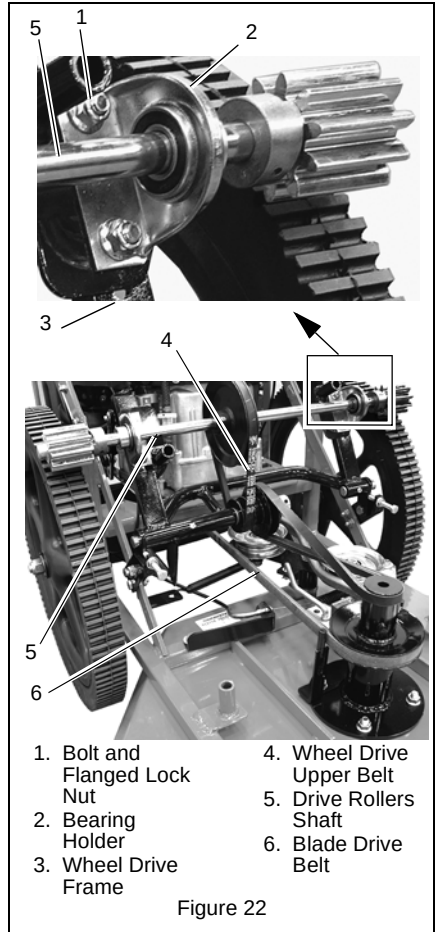

Figure 22
See Figure 22.
5. Install new belt. See Figure 22.